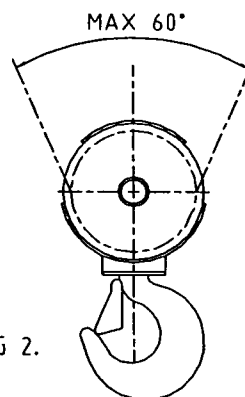

FIG 2.
- b. Included angle of ropes not to exceed 60°. Refer to Figure 2